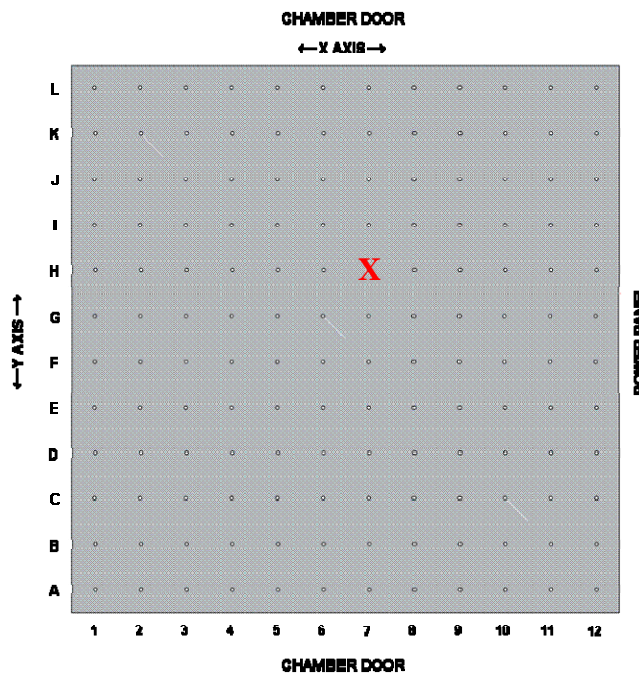

Figure 3 – 48inch x 48 inch Table layout- place thermocouple a position H7
- 48inch x 48inch table: At table bolt hole position H7 (**Figure 3**)